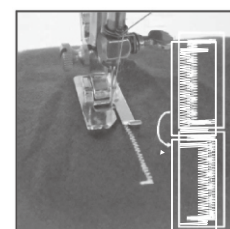

Fig.26
5. Choose the 12th stitch, then turn on switch and sew 3-4 stitch in low speed, then turn off switch.(Fig.26).